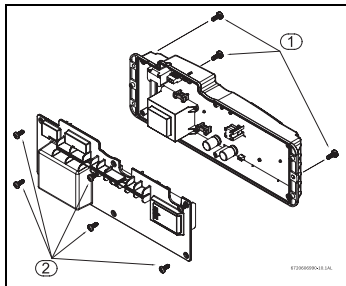

Fig. 7
- ▶ Remove the 6 screws from the back cover of the control unit, to access the electronic board (PCB) (Fig. 7, pos.2).
- ▶ Remove the three screws from the control unit (Fig. 7, pos.1).